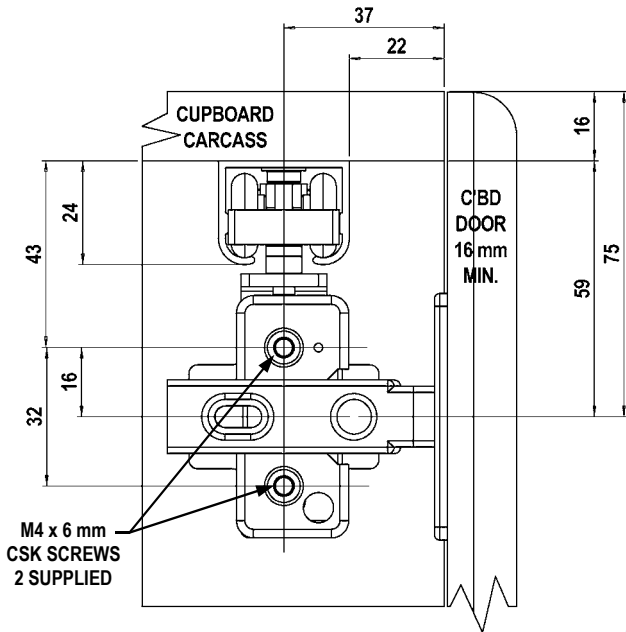

FIG. 3 - END VIEW
- 5) MARK OUT AND FIX TRACK INTO POSITION AS SHOWN IN FIG. 3 - END VIEW. IF DOORS ARE TO COVER END PANELS OF CARCASS, THE SETBACK TO FRONT OF TRACK IS 22 mm.